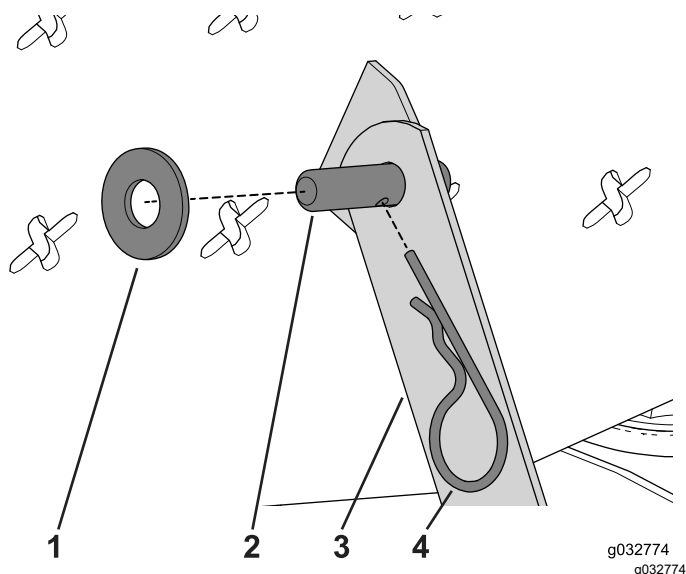

Figure 50
2. Disconnect the pivot arm and pivot bracket by removing the hairpin securing the pivot pin and washer (Figure 50).